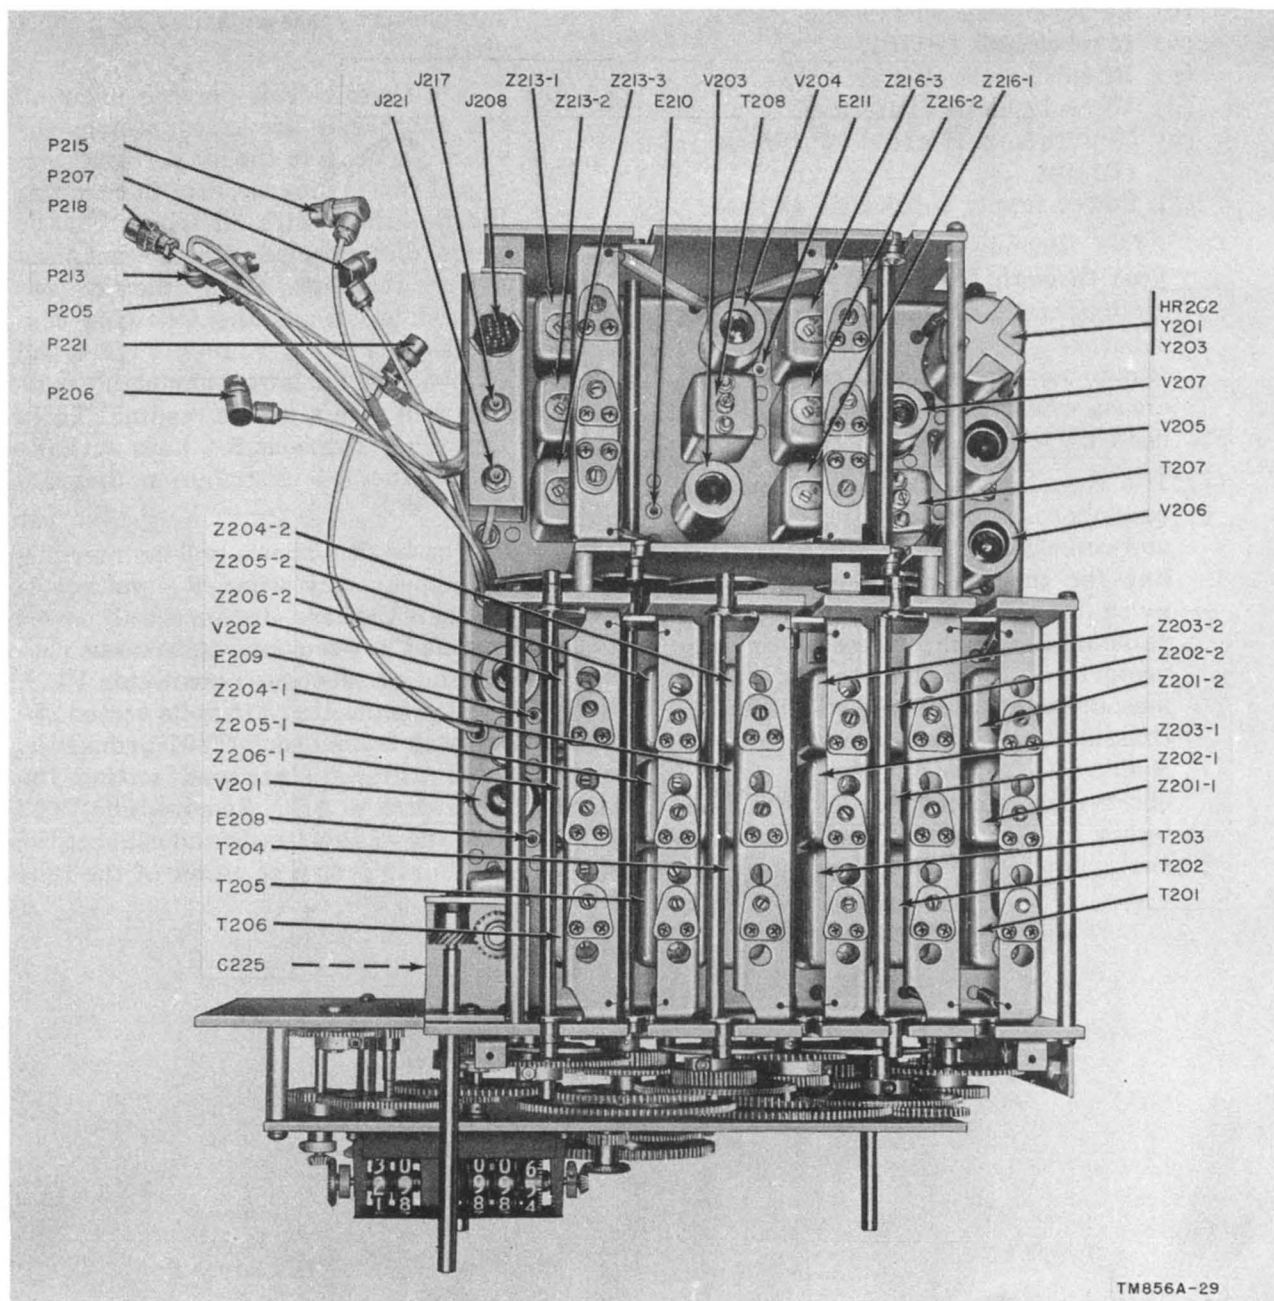

Figure 58. Rf subchassis, top view.
a. Turn the FUNCTION switch to STAND BY. This removes B+ from all tubes except the conversion oscillators. The cathodes and control grids of the mixers act as rectifiers of the oscillator voltage at test points E209, E210, and E211 (fig. 58). The voltage at test point E402 (fig. 58) is the rectified grid leak bias at the control grid of V401.